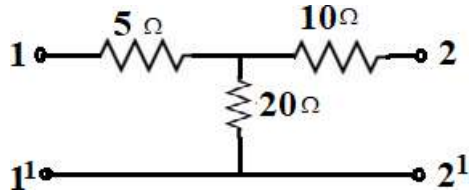

Figure 2
- b) What is two-port network? Obtain the Z, Y and parameters of a network given below figure 2. [6+9]